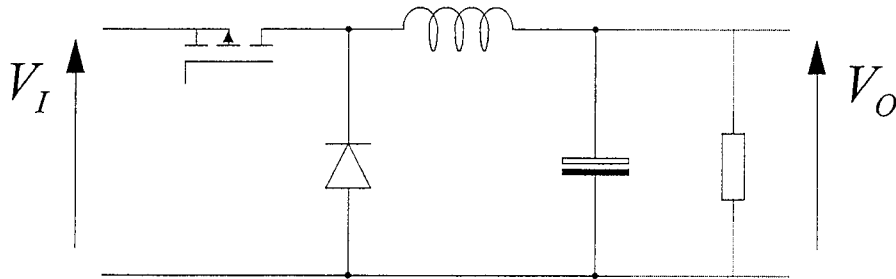

Figure 1 A Buck SMPS
1. (a) Describe the operation of the switch-mode power supply, SMPS shown in figure 1 and derive an equation for the output voltage as a function of duty-cycle. You may assume that the voltage drops across the semiconductors are negligible and that the capacitor is large enough to ensure that the voltage across it changes little during a switching cycle. [7]
- (1) Describe the operation of the switch-mode power supply, SMPS shown in figure 1 and derive an equation for the output voltage as a function of duty-cycle. You may assume that the voltage drops across the semiconductors are negligible and that the capacitor is large enough to ensure that the voltage across it changes little during a switching cycle. [7]